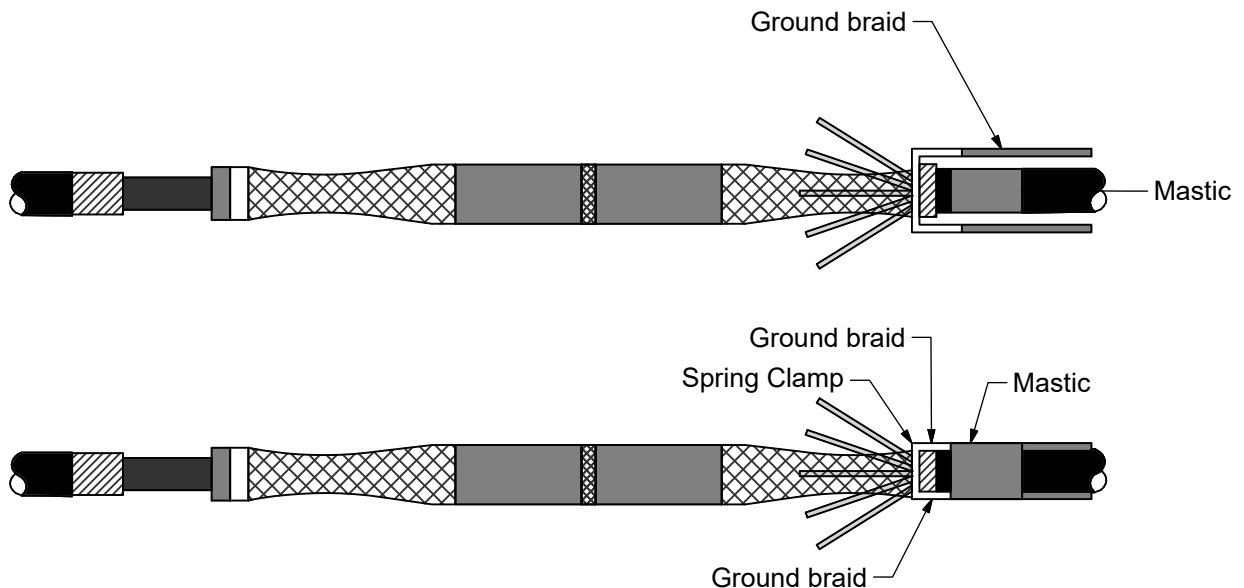

Figure 9
- Connect the other end of the mesh sock as detailed in Step 7. See Figure 9.